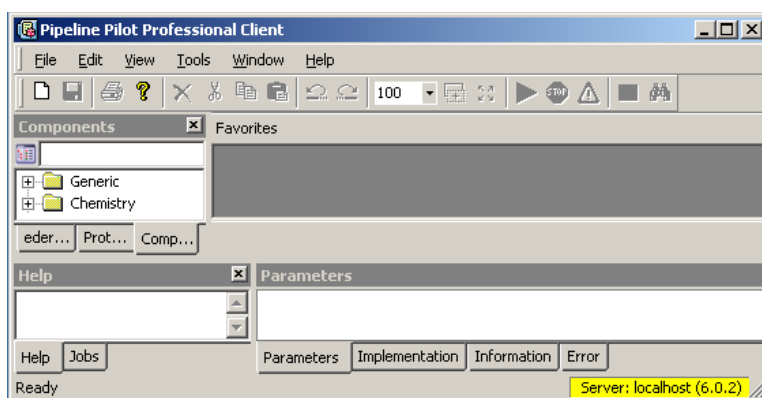

Figure 3.2: See where your Pipeline Pilot Server is installed.
- *FlexX* is installed on the Pipeline Pilot server. You can see which machine is the Pipeline Pilot server by starting your copy of Pipeline Pilot Client on your own workstation and find the name or IP of the server shown at the bottom right of the status bar (see figure 3.2). You must find where the *FlexX* installation is *on that machine*.